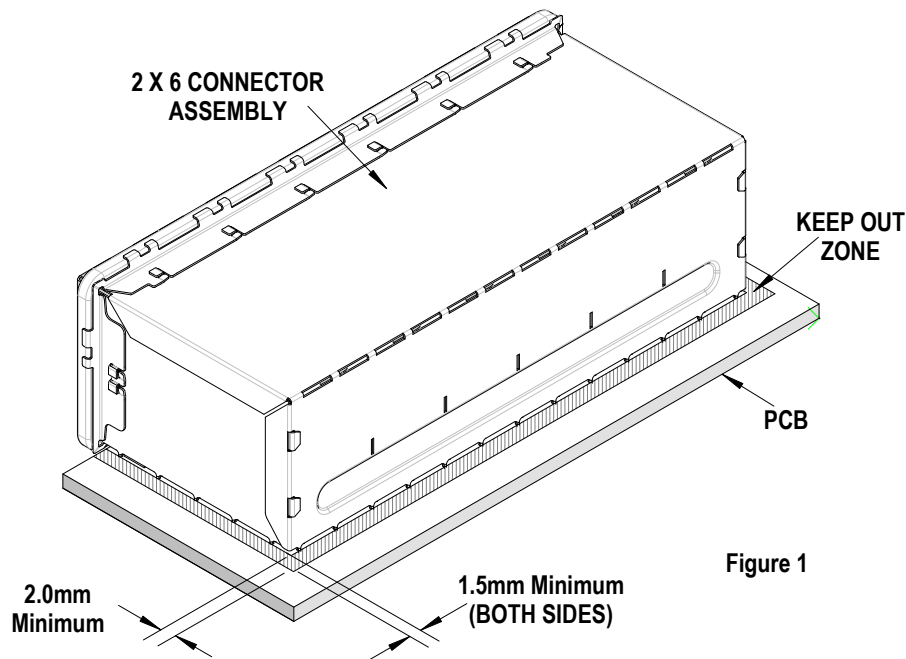

Figure 1
2. These tools require a "Keep Out Zone" around the connector free of components. The rear of the connector should be 2.0mm (0.08 in). The right and left sides should be 1.5mm (0.06 in). See Figure 1.